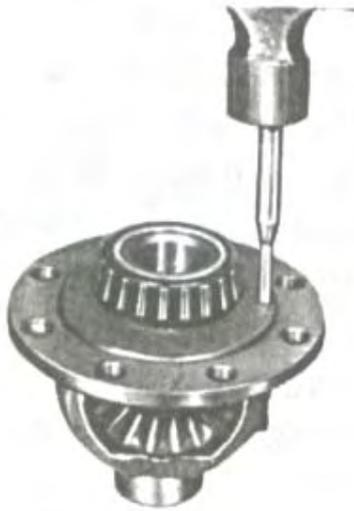

FIG.13-18
(18) Check inner, outer track of differential bearing and roller for excessively wear, burnt. Check to ensure that bearing rotates smoothly and replace as necessary.
(19) remove spring column pin by using special tool.(FIG.13-18)